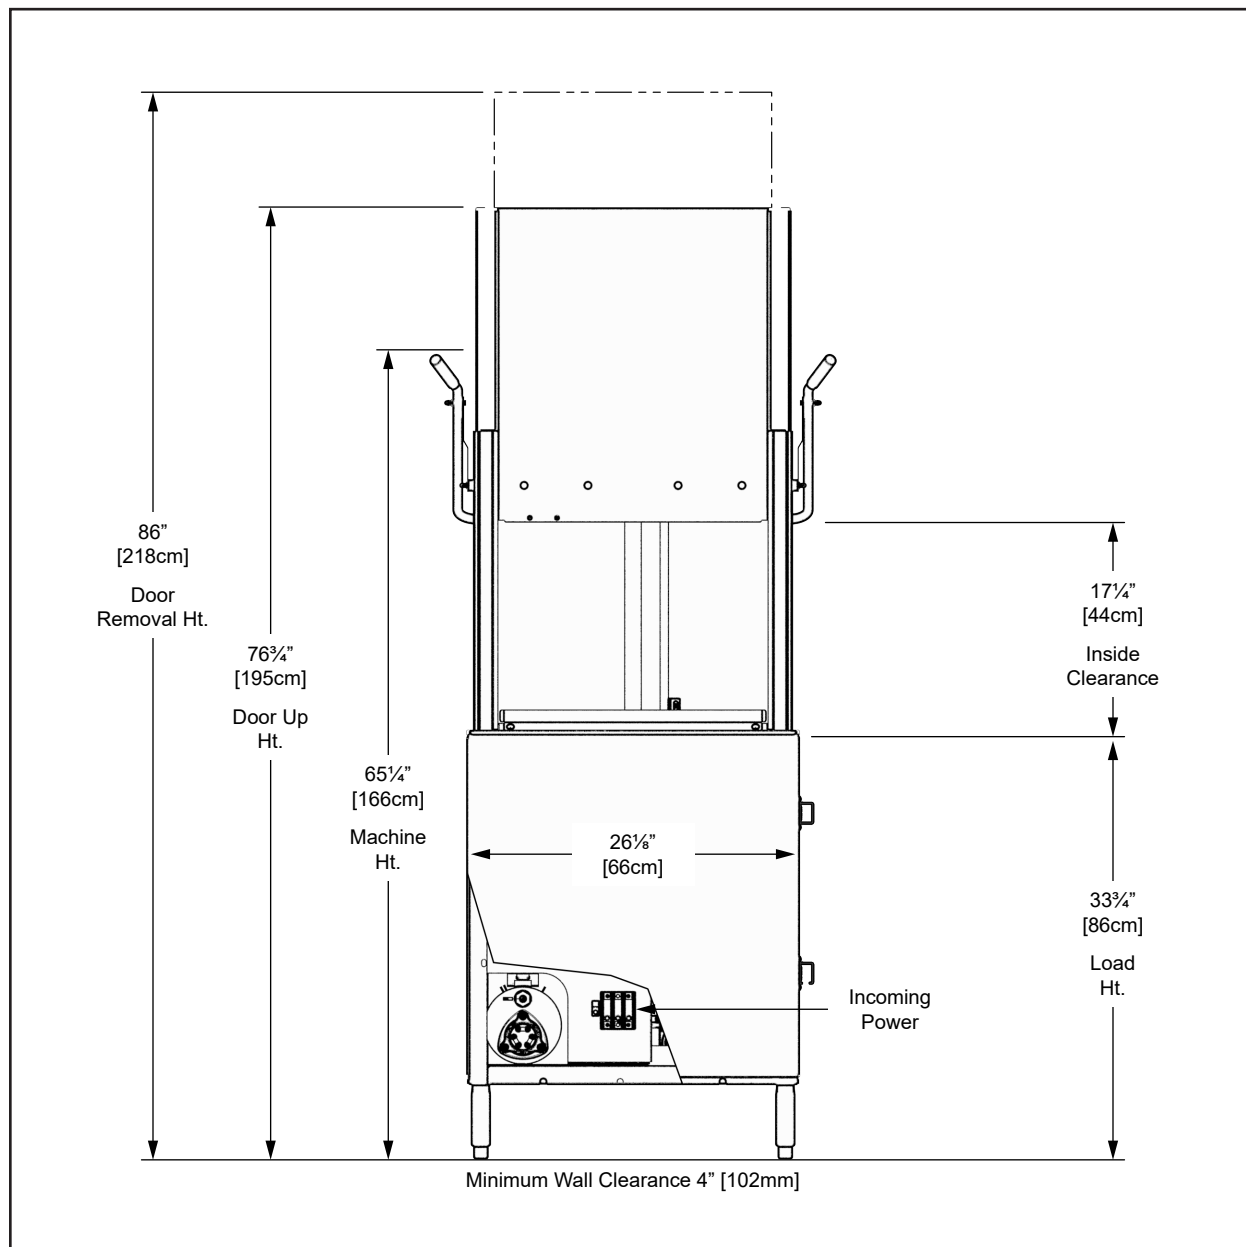

Fig. 3 - Dishwasher Dimensions in Inches and Centimeters
6. The typical dishwasher load height is 33 $\frac{3}{4}$ " [86cm] (see Fig. 3).